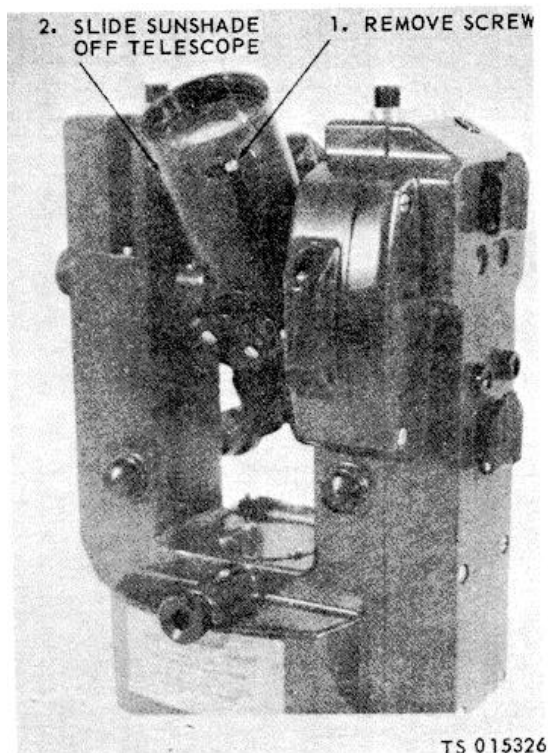

Figure 4-1. Telescope sunshade, removal and installation.
b. *Removal.* Refer to figure 4-1 and remove telescope sunshade.